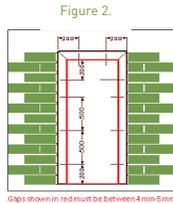

Figure 2.
Fixings (see Fig 2)
- Step 3** Fit the door into the aperture ensuring the door is level using additional packers as required, you must ensure that the gap at the top of the door between slab and frame is equal from left to right [see gap tolerances Fig 2].
- Step 5** Close the door against the lock jamb ensuring full contact is made with the Q-Lon gasket and that the door slab is flush with the small face of the door frame. Special attention must also be made to ensure that the gap between the door slab and the outer frame (where the brush pile sits) is equal from left to right and from top to bottom. This gap should be between 4mm - 5mm, but consistent around the door [see Fig 2].